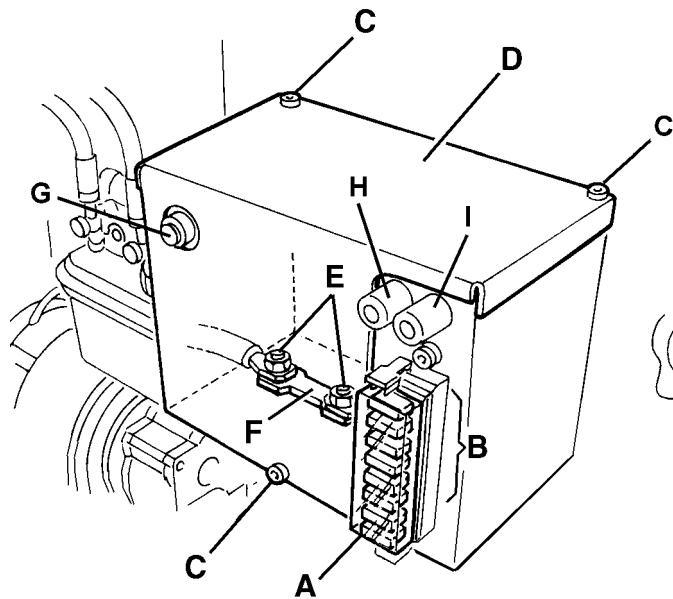

Figure 28
5. Remove the cover (A, Fig. 28) and mark the positions of the fuses shown on the adhesive.
6. Check/replace the relevant fuse among the following (B):
7. Remove the screws (C, Fig. 28), then remove the cover (D).
8. Remove the nuts (E).
9. Check/replace the main fuse F0 (150 A) (F)
- FA fuse (H, Fig. 28): Right side broom motor circuit breaker
- FB fuse (I): Left side broom motor circuit breaker
- FC fuse (G): Main broom motor circuit breaker